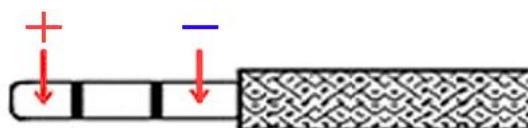

Fig.5. The polarity of jackplug of power cable.
4. Insert the jackplug of cable of AC/DC adapter into connector "+12V DC" (5). The AMT-07M is operationally ready. Figure 5.